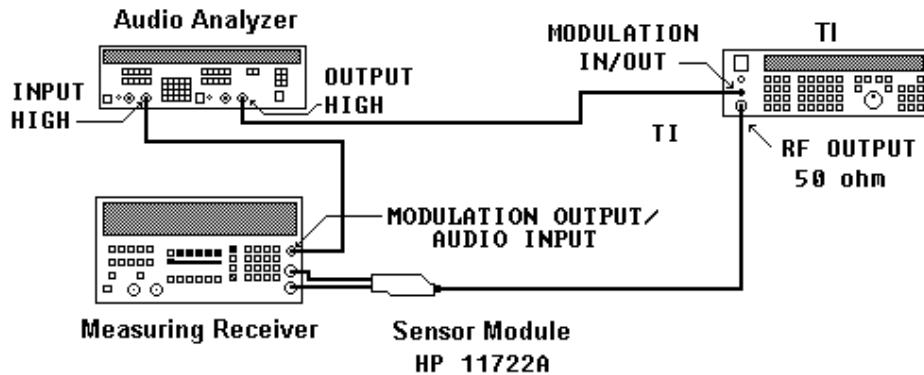

Figure 3. AM modulation hookup.
(1) Connect equipment as shown in figure 3.